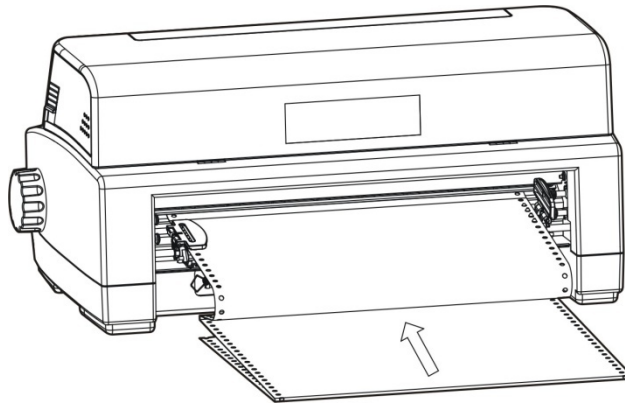

Figure 3-6 Installing the tractor paper onto the chain gear of the tractor (optional)
4. Open the cover of the chain gear, then installing the tractor paper onto the chain gears and close the cover of it (Show as figure 3-6).